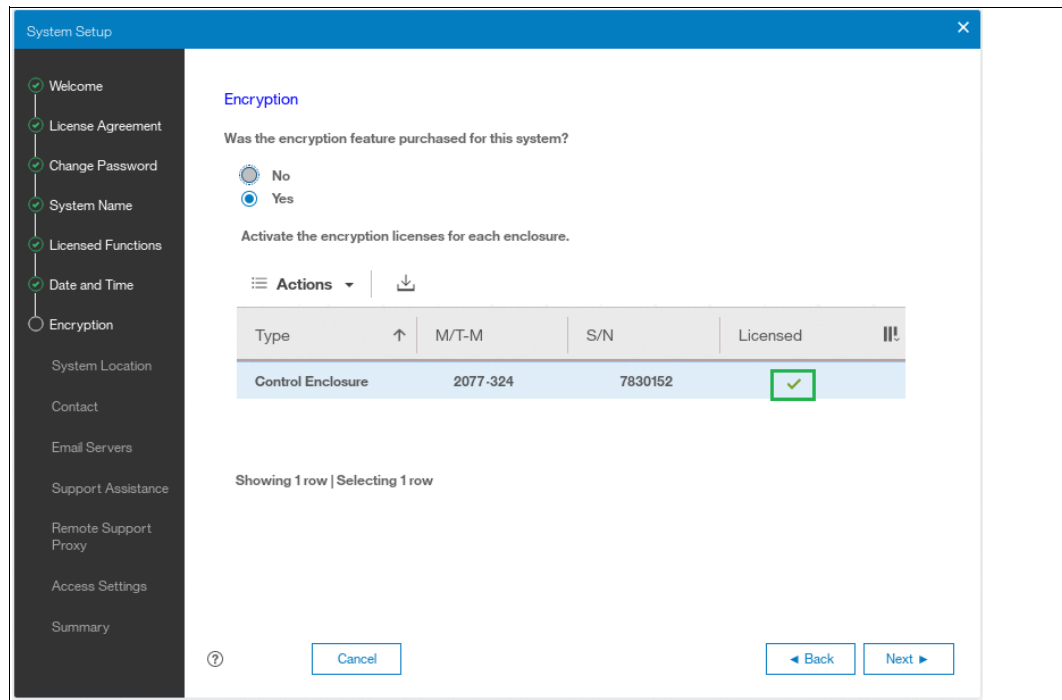

Figure 13-8 Successful encryption license activation during initial system setup
4. After either activation process is complete, you can see a green check mark in the column labeled **Licensed** next to a node for which the license was enabled and you can proceed with the initial system setup by clicking **Next**, as shown in Figure 13-8 on page 714.